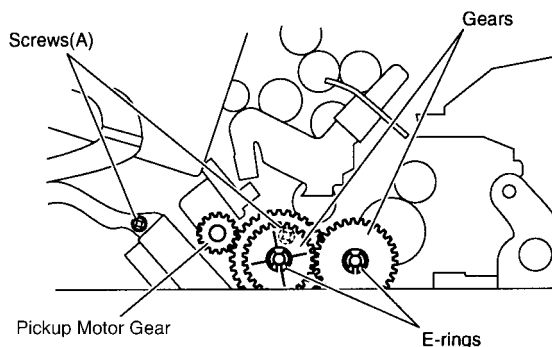

Fig. 4-44
- 6) Remove 2 screws (A) as shown in Fig. 4-44.